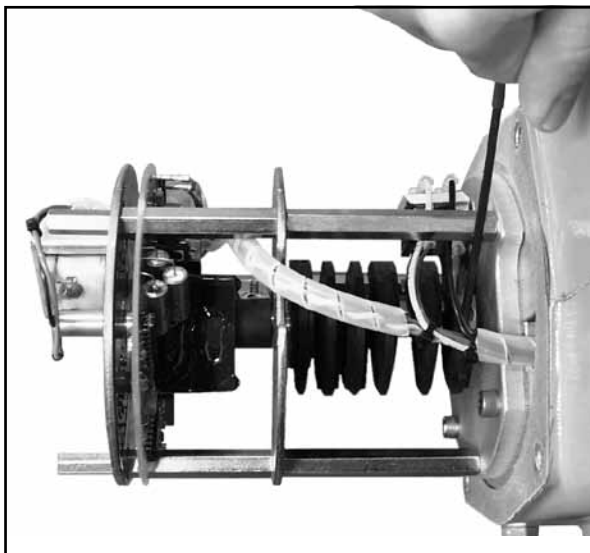

Figure 1
2. Use the electric Handswitch to drive the control shaft so that the CW switch cam screw is accessible. Using a 7/64" hex wrench, loosen the screw so that the cam is just snug on the shaft. See Figure 1, below.